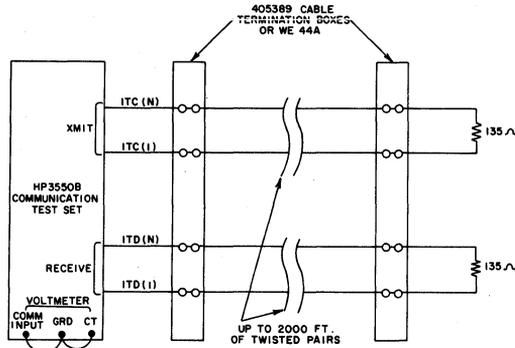

Fig. 20—Cross-talk Measurements
7.08 The Cross-talk Tests require a HP-3550B Communication Test Set or equivalent and two 135 ohm resistors. Connect the test set and resistors as shown in Fig. 20. Perform the tests in Table D.